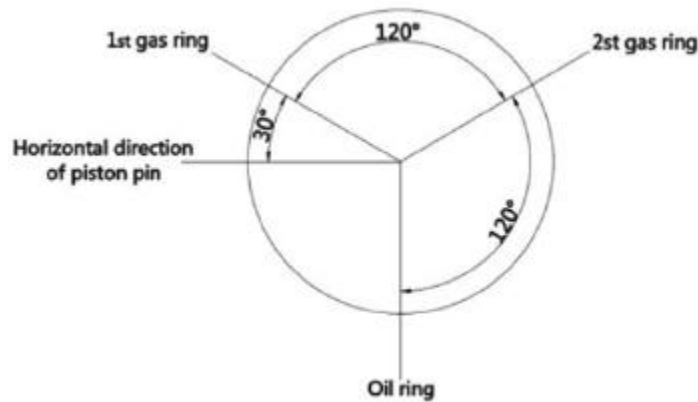

Figure 109.
5. Fit the 1st circlip (Figure 109, Item 4) onto one end of the piston.
6. Lightly oil the bore openings and insert the piston pin (Figure 109, Item 5) into the first part of the bore.